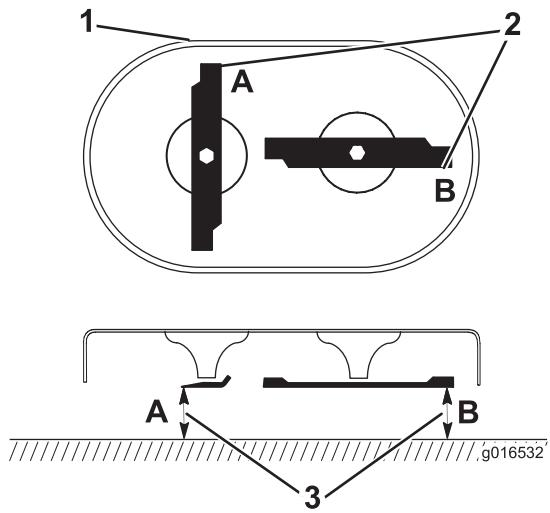

Figure 35
- Rotate the blades until they are positioned as shown in Figure 35.
- Measure from a level surface to the cutting edges at locations A and B, (Figure 35), and record both dimensions.